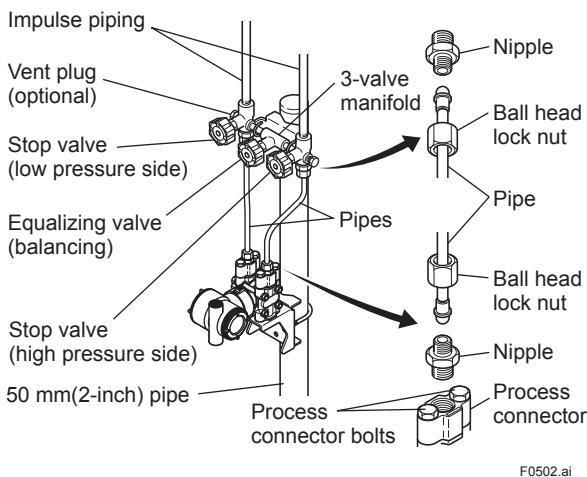

Figure 5.2 3-Valve Manifold (Pipe-Mounting Type)
■ **Pipe-Mounting Type 3-Valve Manifold (Figure 5.2)**